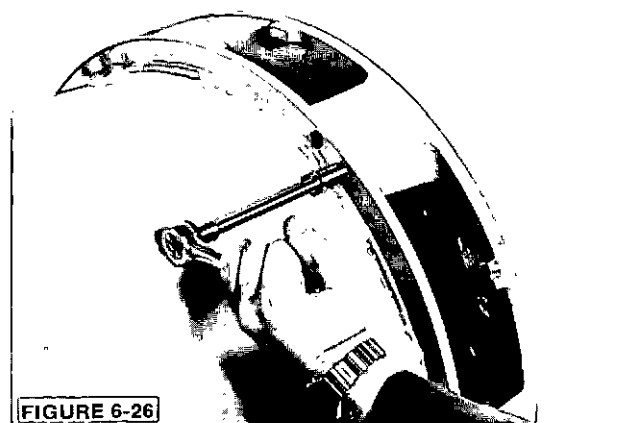

FIGURE 6-26
5. a. For single bearing generators, remove the capscrews holding the SAE adapter to the generator and remove the adapter. (Figure 6-26 and 6-27.)
- b. For two-bearing generators, remove the capscrews holding the drive end bracket to the generator and remove the bracket. (Figure 6-26 and 6-28.)